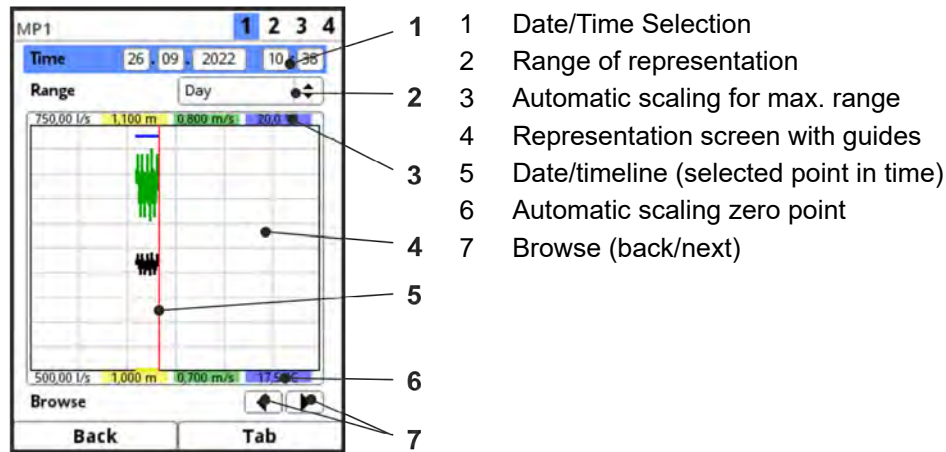

Fig. 41-2 Rerepresentation Trend Graph
1. Select the desired range (range of representation; Fig. 41-2 Pos. 2).
2. If necessary, use the arrows (Fig. 41-2 Pos. 7) to scroll forwards and backwards with the same basic display setting.
In the top area of the screen you can find the **Date/Time Selection** (Fig. 41-2 Pos. 1). The line is highlighted in blue and is therefore active.
The display shows the measurement data of the selected date depending on the set time period (Fig. 41-2 Pos. 2).
The red vertical line (Fig. 41-2 Pos. 5) is on the selected point in time (date and time).
➤ This setting is made using the >Range< (see Fig. 41-2 Pos. 2).